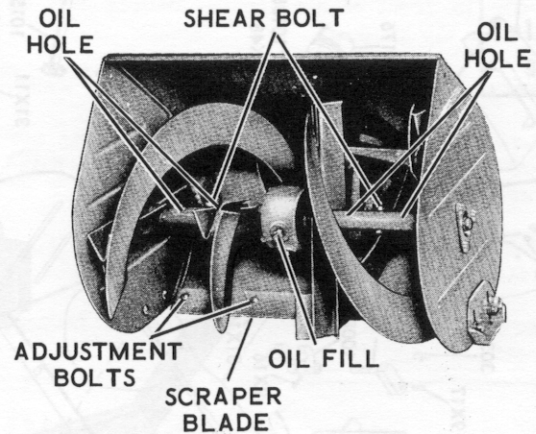

Figure 2
An adjustable scraper blade (figure 2) is provided along the bottom edge of the blower housing. During operation, this blade runs along the surface being plowed directing the snow into the rotor and insuring a clean plowed surface. After considerable usage, this blade may wear and should be adjusted. The blade is adjusted by loosening the five nuts holding it to the housing, sliding it down to the new position and retightening the nuts. The blade is also designed so that it may be reversed if one side becomes worn beyond further adjustment.
tinued, this shear bolt must be replaced. See figure 2. **USE ONLY ARIENS SHEAR BOLTS. USE OF OTHER TYPES OF BOLTS MAY RESULT IN SEVERE DAMAGE TO MACHINE. STOP THE ENGINE BEFORE ATTEMPTING TO REMOVE OBSTRUCTIONS OR REPLACE SHEAR BOLTS.**
c. Oil rake oil holes (figure 2) every 25 hours of operation or each time a shear bolt is replaced.